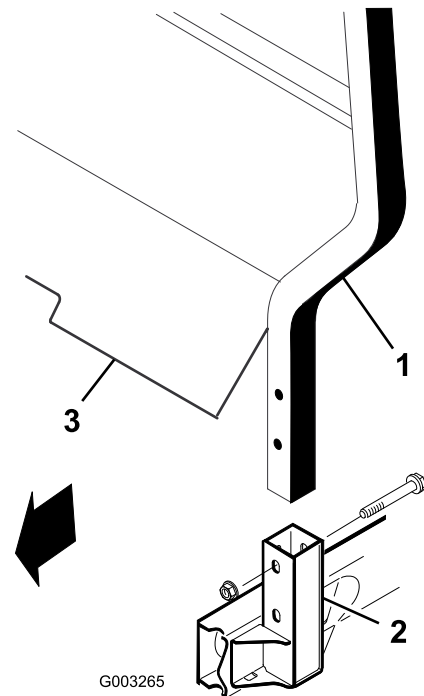

Figure 3
1. Insert each side of ROPS into mounting bracket on each side of vehicle frame, positioning ROPS as shown in Figure 3.